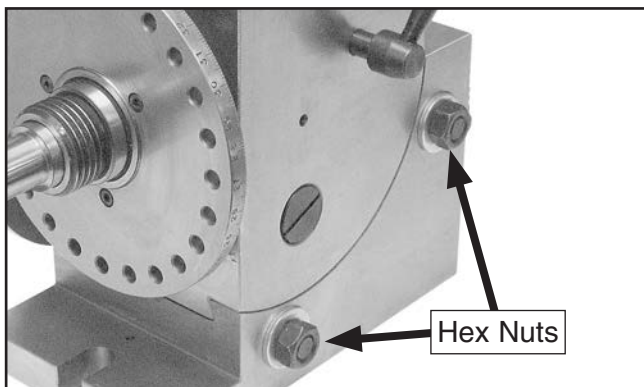

Figure 14. Tilt locking hex nuts.
1. Loosen the two tilt locking hex nuts on the rear of the dividing head (see **Figure 14**).